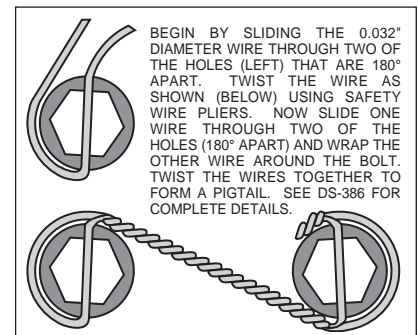

Figure 3. Safety Wire Diagram
- The spindle bracket (1) and the caliper bracket (2) have been assembled at the factory for alignment purposes. Loosen the two bolts that secure the brackets together so that the bolts are hand tight only, this will enable the bracket assembly (1 and 2) to be adjusted to accommodate various spindle tolerances during assembly. Bolt the lower portion of the bracket assembly (1) to the backing plate face of the spindle using two bolts (3) and two lock nuts (4), hand tighten only. Install bolt (6) through caliper bracket (2), placing the spacer (5) between the bracket and the steering arm. Torque two bolts (3) to 47 ft-lb. Apply red *Loctite*® 271 to the bolt threads (6) and torque to 120 ft-lb. Remove one of the bolts that secure the bracket assembly (1 and 2) to each other. Apply red *Loctite*® 271 to the bolt threads and reinsert into the bracket assembly. Repeat this procedure for the second bolt. Torque these two bolts to 30 ft-lb. **NOTE:** Be sure the heads of the bracket assembly (1 and 2) insert nuts are facing outward toward the wheel.
- Install five new wheel studs (7) into the hub (8). Torque to 77 ft-lb. **NOTE:** There are two five lug patterns in the hub (5 x 4.50 and 5 x 4.75). Make sure of the correct hole pattern for the correct wheel application before installing studs into hub.
- Pack the large inner bearing cone (9) with high temperature disc brake bearing grease (available from your local auto parts store) and install into the backside of the hub (8).
- Install the grease seal (10) by pressing into the backside of the hub (8).
- Attach rotor adapter (11) to rotor (12) using eight bolts (13). Torque bolts (13) to 180 **in-lb**. Safety wire bolts (13) using standard 0.032 inch diameter stainless steel safety wire as shown in Figure 3. Please refer to Wilwood's data sheet DS-386 (available at www.wilwood.com/pdf/ds386.pdf) for complete safety wire installation instructions. **NOTE:** The flat side of the rotor (12) lugs faces toward the rotor adapter (11) with the dished side of the rotor adapter (11) facing away from the rotor (12).